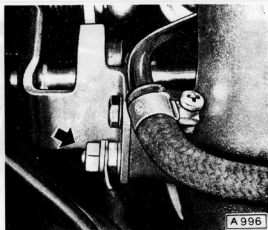

Fig. 13.70 Wiring harness earth connection (Sec 8)
- 139 The wiring harness earth connection is shown in Fig. 13.70.